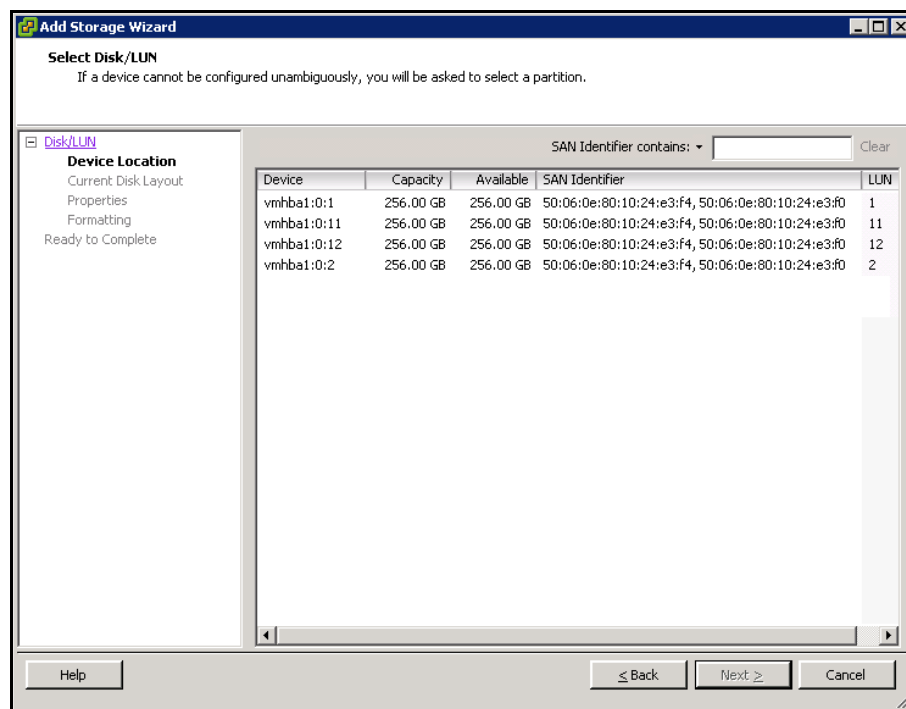

Figure 4-18: Select Disk/LUN Screen (Add Storage Wizard)
16. Under **Storage Type**, select **Disk/LUN** (if it is not already selected, then click **Next**. The Select Disk /LUN screen appears (Figure 4-18).